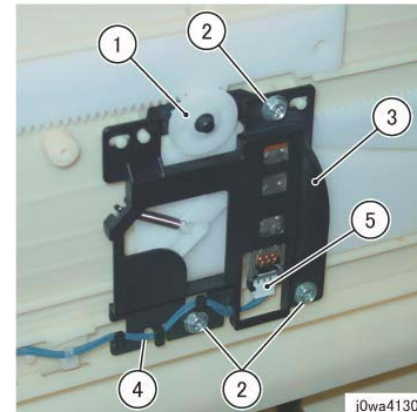

Figure 3 Remove the Tray 5 Paper Size Sensor
5. Remove the Tray 5 Paper Size Sensor. (Figure 3)